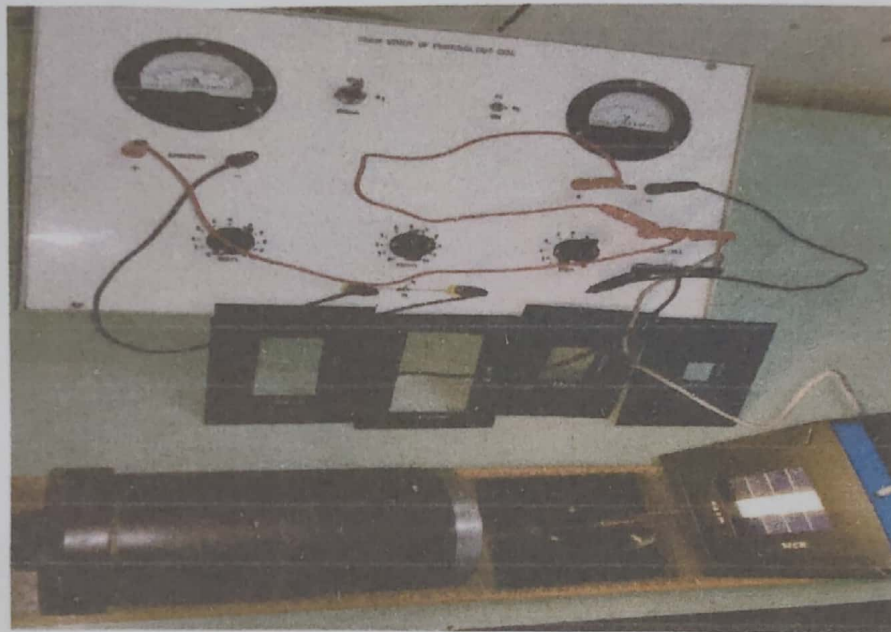

Figure 11 – Setup for Areal Characteristics of a Solar Cell
2. Insert the chopper plates of different window area between the solar cell and light source as shown in figure 11 below.